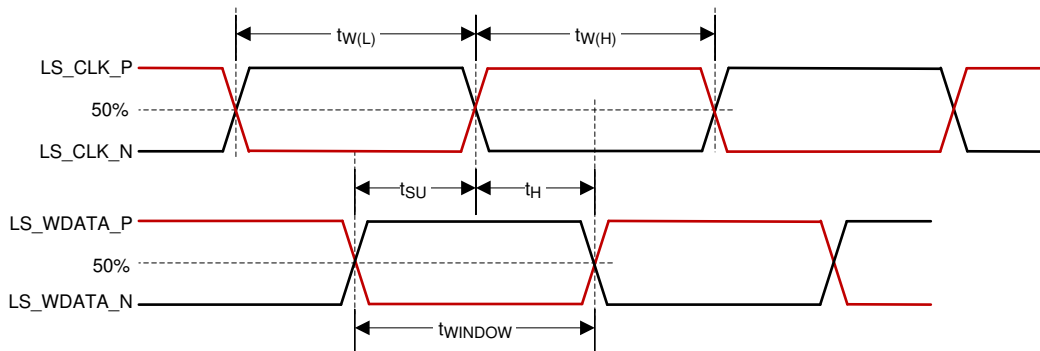

Figure 6-4. LSIF Timing Requirements
(3) See Figure 6-4 for pulse duration high and low time for LSIF.
(4) See Figure 6-4 for setup and hold time for LSIF.